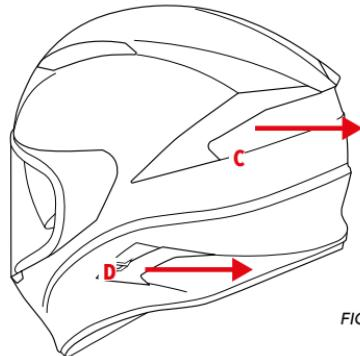

FIGURE 7
■ PRISE D'AIR POSTERIEURE – C – Figure 7
■ PRISES D'AIR LATERALES – D – Figure 7